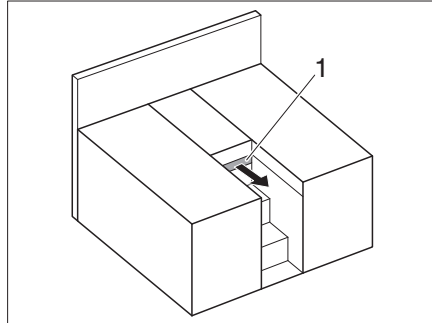

Fig. 171 Single beds
- Pull out the extension (Fig. 171,1).